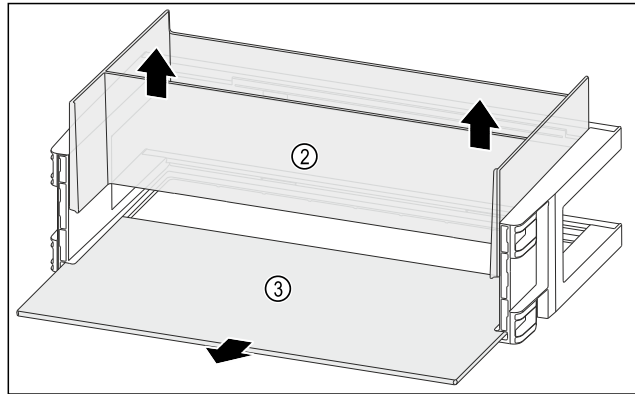

Fig. 109
- ▶ Remove the organizer Fig. 109 (2) upwards.
- ▶ Remove the shelf Fig. 109 (3).